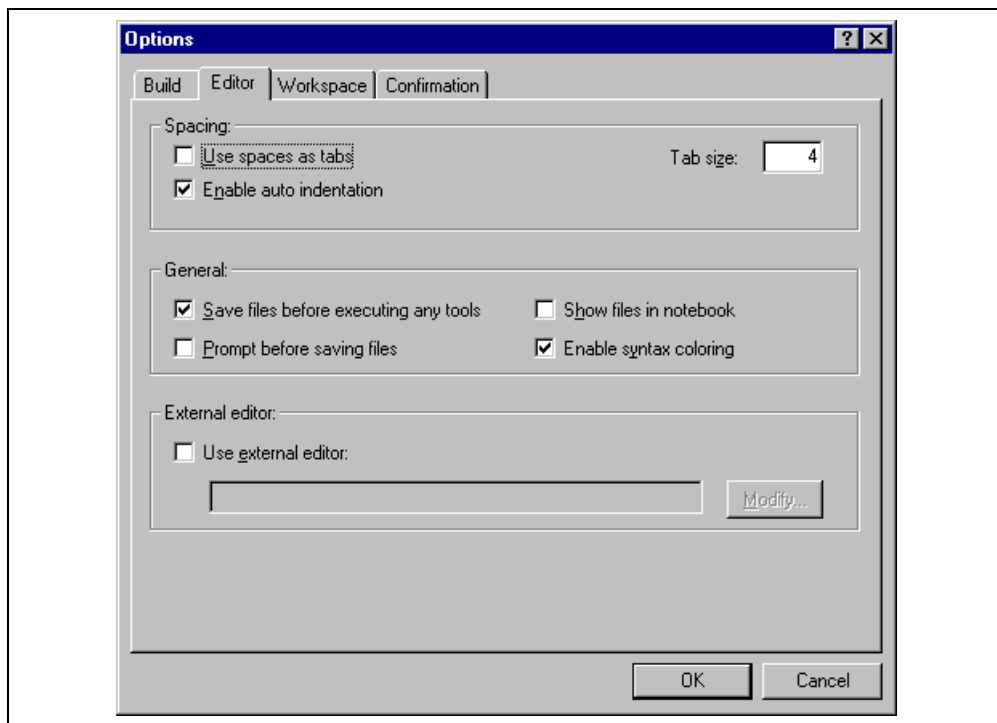

Figure 6.11: Options Dialog Editor Tab
1. Select [Tools->Options...]. The “Options” dialog will be displayed. Select the “Editor” tab * MERGEFORMAT (figure 6.11).
The Hitachi Embedded Workshop allows you to customize file save on the “Editor” tab of the * MERGEFORMAT “Options” dialog (figure 6.11). To open the tab, select [**Tools->Options...**] and click the “Editor” tab.